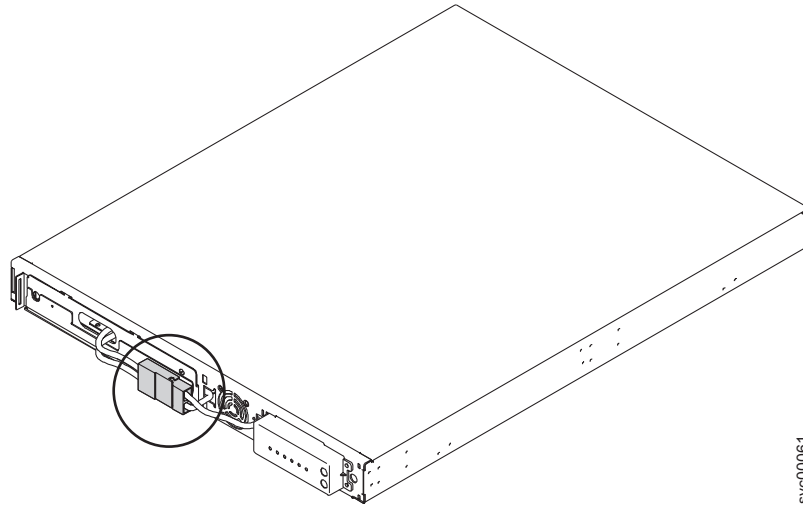

Figure 14. The 2145 UPS-1U internal-battery connector
5. Connect the internal battery connector (shown in Figure 14 on page 21). Each end of the keyed connector has two wires: one red (+) and one black (-). Align the connector so that the two red wires are joined together and the two black wires are joined together.